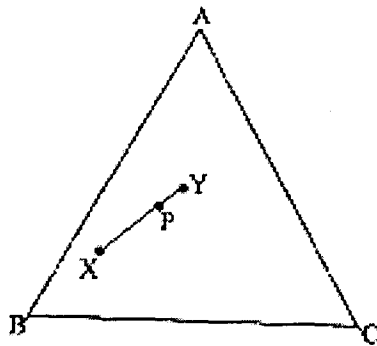

Figure 6 - ternary diagram for ABC system
- [b] A mixture represented by point P in Figure 6 is to be prepared by mixing the mixtures X and Y. Determine the ratio of X to Y to obtain the right composition. The composition of each point is given in the following table: